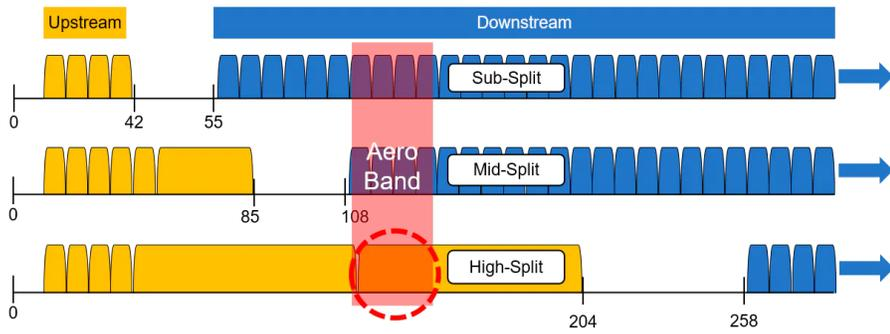

Figure 3. Signal leakage with high split.
**Signal Leakage/CLI** – Governmental regulations in some countries require aeronautical band (108-136 MHz) signal leakage monitoring, a task made simple by widely deployed downstream leakage monitoring systems. High-split networks break this paradigm as the aero band moves to the upstream band (Figure 3). Leakage systems designed to detect injected